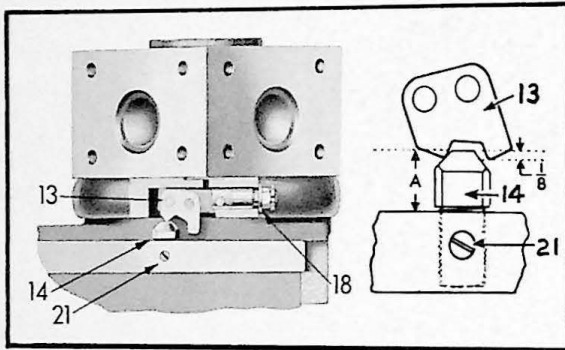

FIG. 40 Turret Binder Mechanism FIG. 41 Stud Adjustment
2. At the same time the turret binder ring has been released, because toggle (13), Fig. 40 has been swung to the unlatched position by its passing over stud (14) on the rear top cap.
- Now adjust nut (18), Fig. 40, so that it is possible to just barely rotate the turret when pulling steadily and firmly with one hand on the bar projecting from the turret hole. (See item (3) in left column).
- Lock this adjustment with cotter pin through castellated nut (18) Fig. 40.
- On the other hand, if binder ring is not clamped tightly enough there is no strain on the toggle when the turret is working and vibration will cause the toggle to fall down to its loose position. This also can cause ring breakage, because the toggle will then bump into stud (14), Fig. 40, on its return stroke instead of rocking over it.